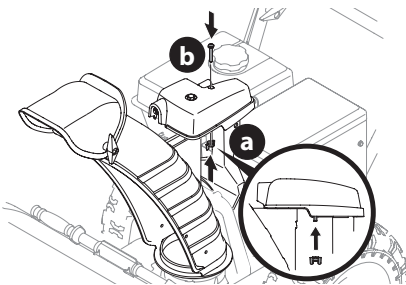

Figure 15
3. Finish securing chute control head to chute support bracket with wing nut (or locknut if equipped) (a) and hex screw (b) removed in Step 1 (Figure 15).